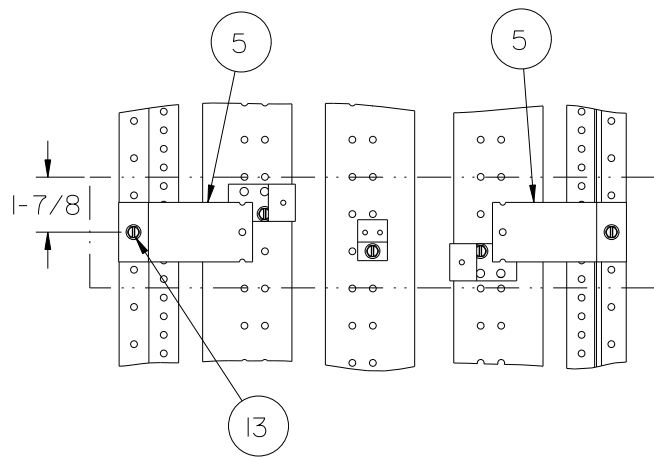

Figure 5
- 6. Reference fig. 5 - Attach the Barrier Supports. Locate a 0.228" diameter hole in the left Z-rail 1-7/8" below the top of the empty unit space selected. Insert a 1/4-20 X 3/8" screw (item 13) through the ø 0.312 hole in a Barrier Support (item 5) and into the selected hole in the Z-rail (orienting the Barrier Support as shown) and tighten. Repeat this step for the second Barrier Support. Torque all hardware as specified on the rear of the deadfront.